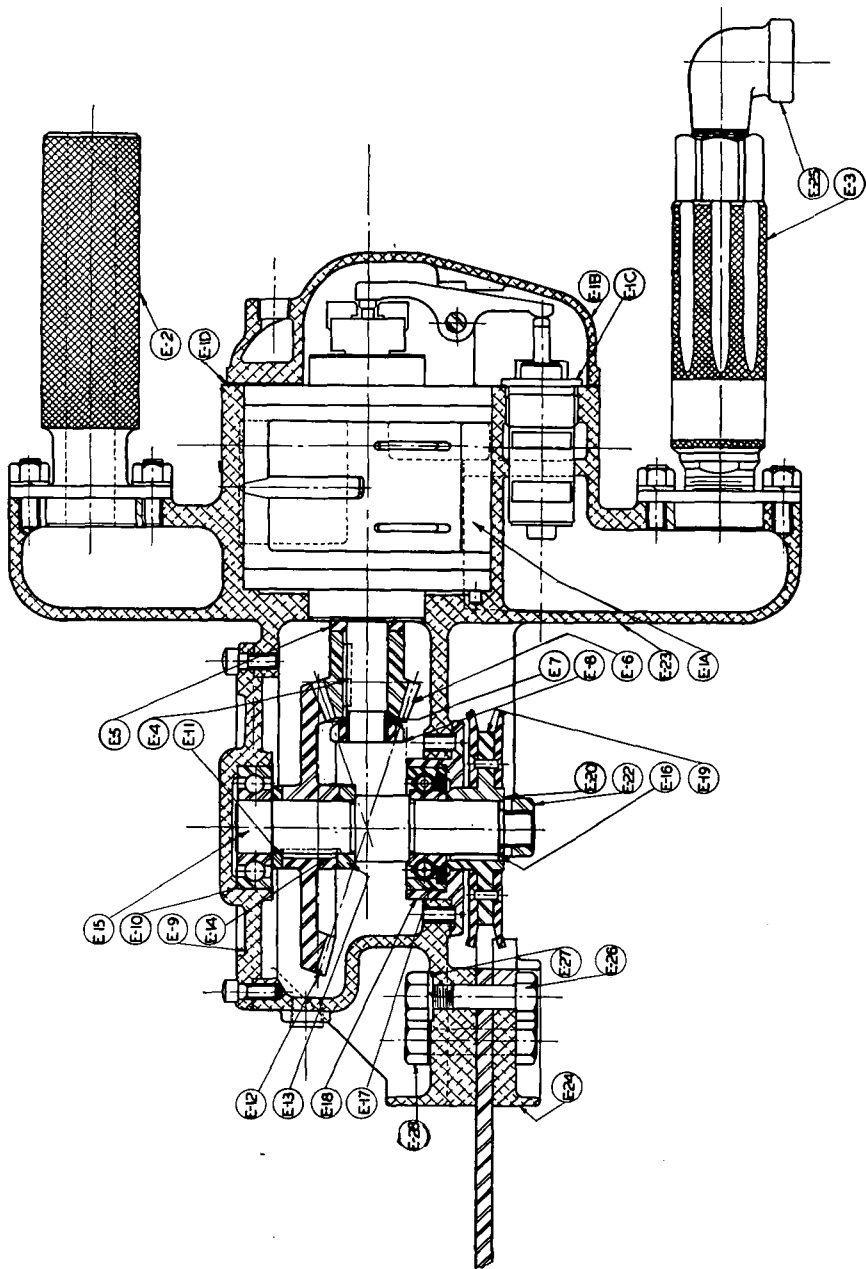
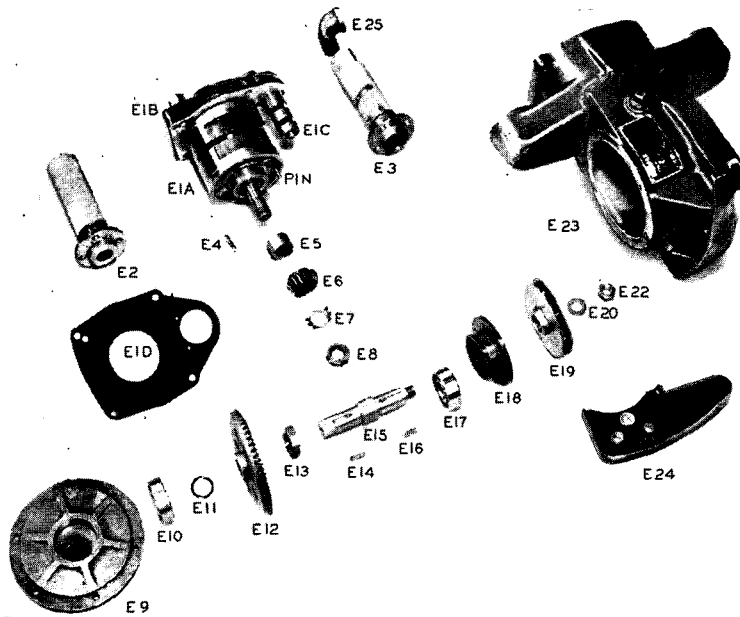

FIG. 7
FIGURE 12
Removal of the rotor necessitates the disassembly of the pinion (E6) (Fig. 7) and pinion spacer (E5) (Fig. 7), after which the rotor can be pulled out of the motor. When assembling a rotor, always pull up tightly on the lock nut (E8) (Fig. 7) which holds the pinion in place. This will pull the rotor up against the end plate to a point where it may actually rub a little. In pulling up tightly on the governor body (57) when assembling the other end of the motor, however, the rotor will be pulled toward the upper end plate, locking it in a freely suspended position between the two end plates.
Figure 7 and Fig. 12 in the Parts List section show the assembly of the gear box unit. E1A is the complete rotor assembly. The bevel pinion (E6), the spacer (E5), and the key (E4) are assembled to the shaft on this rotor. They are locked in place with the lock washer (E7) and the lock nut (E8). These parts should be assembled to the rotor before the rotor is placed into the main housing (E23). Note that there is a pin which projects beyond the rotor assembly. This pin locates the several parts of the rotor housing and must fit into the hole drilled into the main housing. It is helpful when assembling this rotor to use a dummy pin. Such a dummy pin should be about twice as long as the rotor assembly and should be inserted in the hole in the main housing (E23). The regular pin is then removed from the rotor (E1A) and the entire assembly is placed in the main housing. The long dummy pin makes it easy to line up the complete assembly as it is put in place. It is necessary to heat the housing to approximately 150° F. so that this part can be assembled easily. When the rotor is in place the dummy pin is removed and the regular pin is inserted. The governor (E1C) is also put in place and the cap (E1B) is assembled with the gasket (E1D).
The parts for the sprocket shaft are assembled in the order as shown in Fig. 7. The key (E14) fits into the key slot on the shaft (E15). The parts (E13), (E12), and (E11) are then assembled in the order named. The bearing (E10) is assembled into the end cap (E9). It will be necessary to heat this end cap before assembling the bearing. The bearing (E17) is assembled into the steel bearing housing (E18). This bearing is of the single seal type and the sealed end should be toward the sprocket. The bearing and support (E18) are placed into the main housing (E23). The shaft assembly, consisting of (E15), (E14), (E13), (E12), and (E11), is put in place with the threaded end extending through the bearing (E17). The end cap (E9) assembled with the bearing (E10) is then put in place in the housing. If the two bevel gears have been properly assembled they should mate properly. The pipe plug on the top of the main housing is located to allow the bevel gear engagement to be seen when the gear box is assembled. The key (E16) is assembled along with the sprocket (E19). The extended hub on the sprocket is assembled in the direction of the bearing (E17). The washer (E20) and nut (E22) are then used to securely lock the sprocket in place. When the nut is being drawn up tight it is necessary to keep the sprocket stationary so that the shaft will not rotate. The gear box requires ½ lb. of Semi-Fiber grease similar to Socony BRB #2 grease or equivalent; for temperatures below 32° high grade SAE 60 or 90 Transmission Oil is recommended. For extreme low temperature this same oil can be mixed with kerosene. The cutter bar and guard are attached to the main housing by bolts and nuts (E26), (E27), (E28). The bumper or horn (E24) is assembled along with the cutter bar using the same bolts.
(Also see Fig. 7 in Maintenance Sec.)